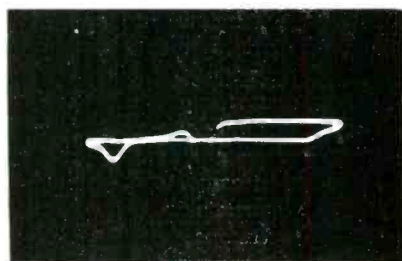

Fig. 7—Cross-over of zero reference line is shown above.
**A.** Cross-over of the zero-volt reference line, as shown in Fig. 7, is caused by displacement of the zero-volt reference line, and by partial cancellation of the forward trace voltage in the circuits under test. This situation may be encountered, e.g., when aligning a front end; the local-oscillator voltage which is present